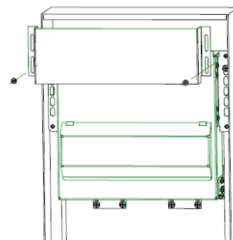

Fig 6.1
- Fit the front cover. The outer cable shroud should be fitted after the front cover is fitted. The shroud is screwed directly to the unit fixing wings. The shroud can be adjusted vertically to ensure all cables entering the top gland plate are shrouded. See Fig. 6.1. And 6.2.